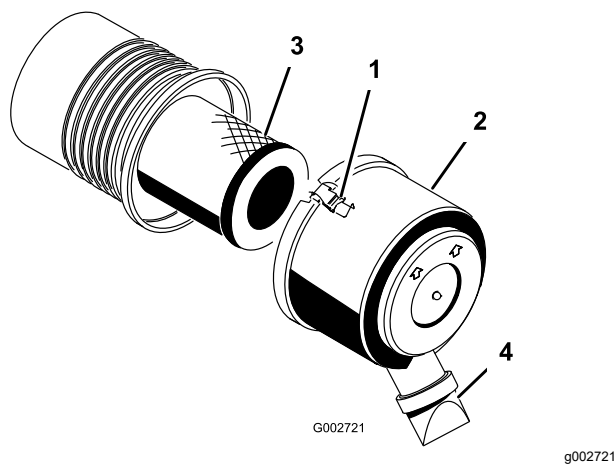

Figure 27
1. Release the latches securing the air-cleaner cover to the air-cleaner body (Figure 27).